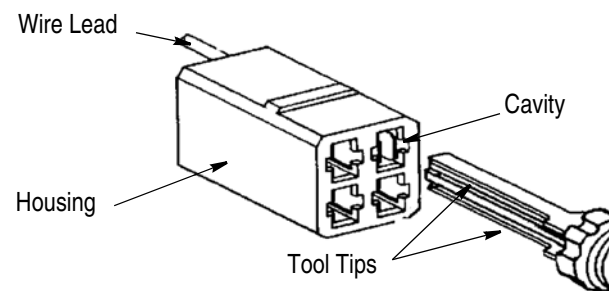

Figure 4
1. Insert the tool tips into the offsets in the cavity. See Figure 4.